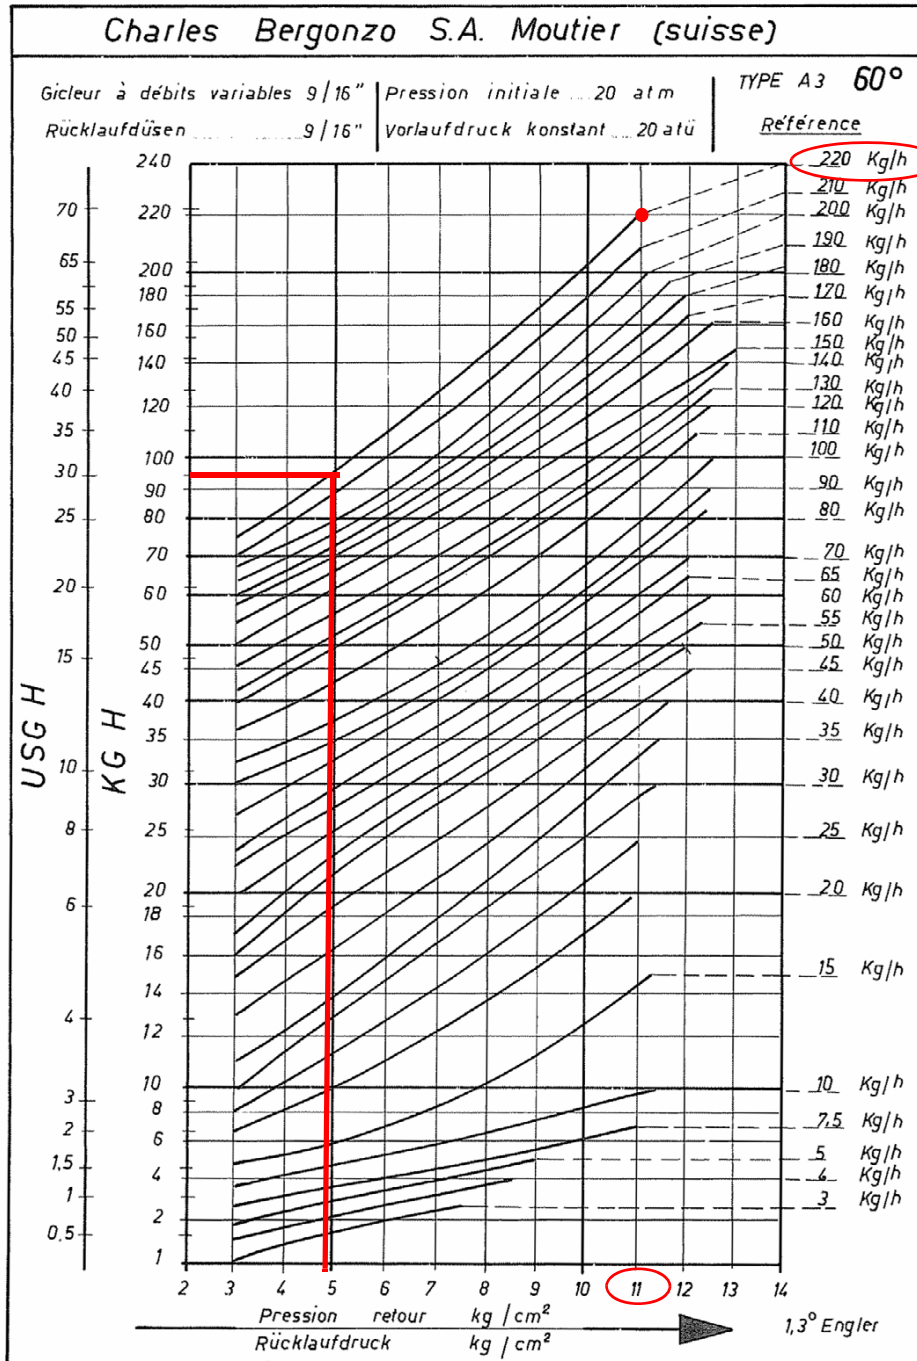

Fig. 15
The light oil flow rate can be adjusted choosing a by-pass nozzle that suits the boiler/utilisation output and setting the delivery and return pressure values according to the ones quoted on the chart below and the diagram on Fig. 15-Fig. 32 (as far as reading the pressure values, see next paragraphs).
**Example (Bergonzo):** if a 220kg/h flow rate BERGONZO nozzle is provided, set the return pressure at 11bar, supply at 20bar on the delivery to get a 220kg/h flow rate. If the return pressure needed is 5bar, instead, act on the **V** adjusting screw on the pressure governor (see chapter on page 32). The flow rate will then be about 95kg/h (see the example showed on the Bergonzo diagram-Fig. 15).